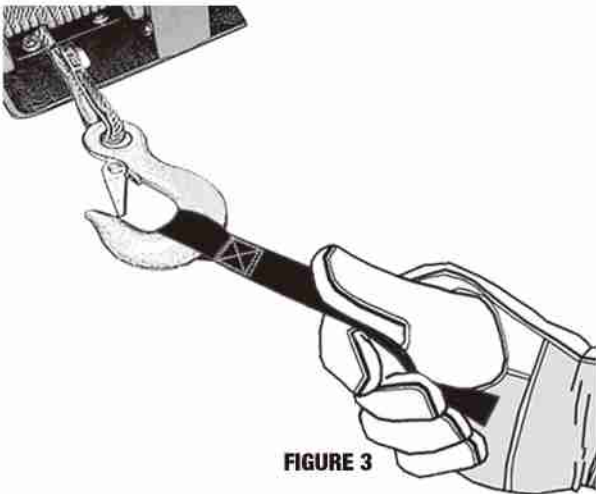

FIGURE 3
Step 5 You are now ready to winch. Practice winching operations by freespooling cable out and winching in under no load. Plan some tests in advance and learn to watch and listen. Recognize the sound of a light steady pull, a heavy pull and sounds caused by load jerking or shifting. You will gain confidence. **ALWAYS WEAR SAFETY GLASSES, LEATHER GLOVES AND USE THE HAND SAVER STRAP (FIGURE 3).**
- 1. KEEP A TIGHTLY WOUND WIRE ROPE DRUM.** Keep the wire rope tightly and evenly wound on the drum all the time. Do not allow the wire rope to become loosely wound. A loosely wound drum allows a wire rope under load to work its way down into the layers of wire rope on the drum. When this happens, the wire rope may become wedged within the body of the windings damaging the wire rope. A good practice is to rewind the wire rope under tension after each use. Apply tension using hand saver strap (FIGURE 3) and ALWAYS wear gloves.